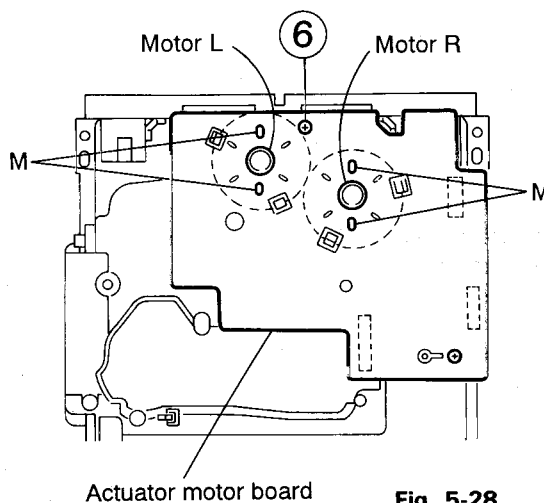

Fig. 5-28
(See Figs. 5-28 and 5-29)
1. Absorb the four soldered positions (M) of the right and left motors with a soldering absorber (See Fig. 5-28).